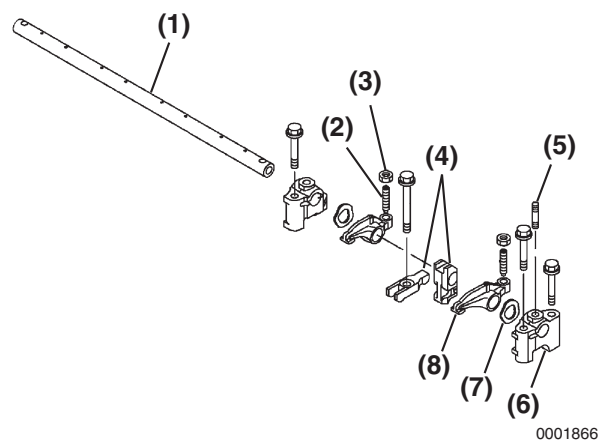

Figure 6-42
1. Remove the rocker arm shaft alignment studs (**Figure 6-42, (5)**) from the rocker arm shaft supports (**Figure 6-42, (6)**).
2. Slide the supports, wave washers (**Figure 6-42, (7)**), rocker arms (**Figure 6-42, (8)**), and fuel injector retainers (**Figure 6-42, (4)**) off the rocker shaft (**Figure 6-42, (1)**), leaving these parts in order on the bench surface.
Note: **Figure 6-42** shows components for one cylinder. Components for all remaining cylinders are assembled in the same order.
3. Remove the valve adjusting screw (**Figure 6-42, (2)**) and the lock nut (**Figure 6-42, (3)**) from the rocker arms.